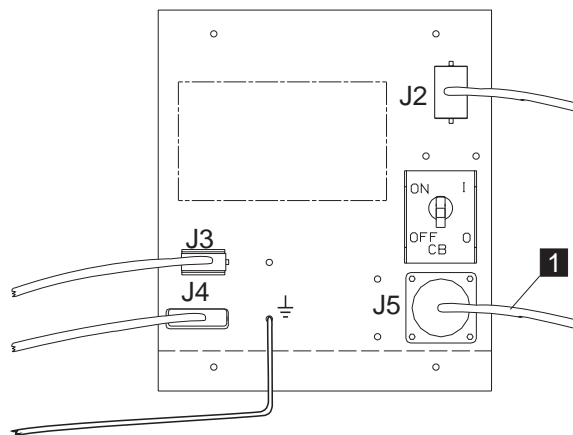

Figure 4-11. DC Power Plug
3. \_\_\_\_ Plug and secure the power cable **1** to connector J5 of the DC power supply (see Figure 4-11).